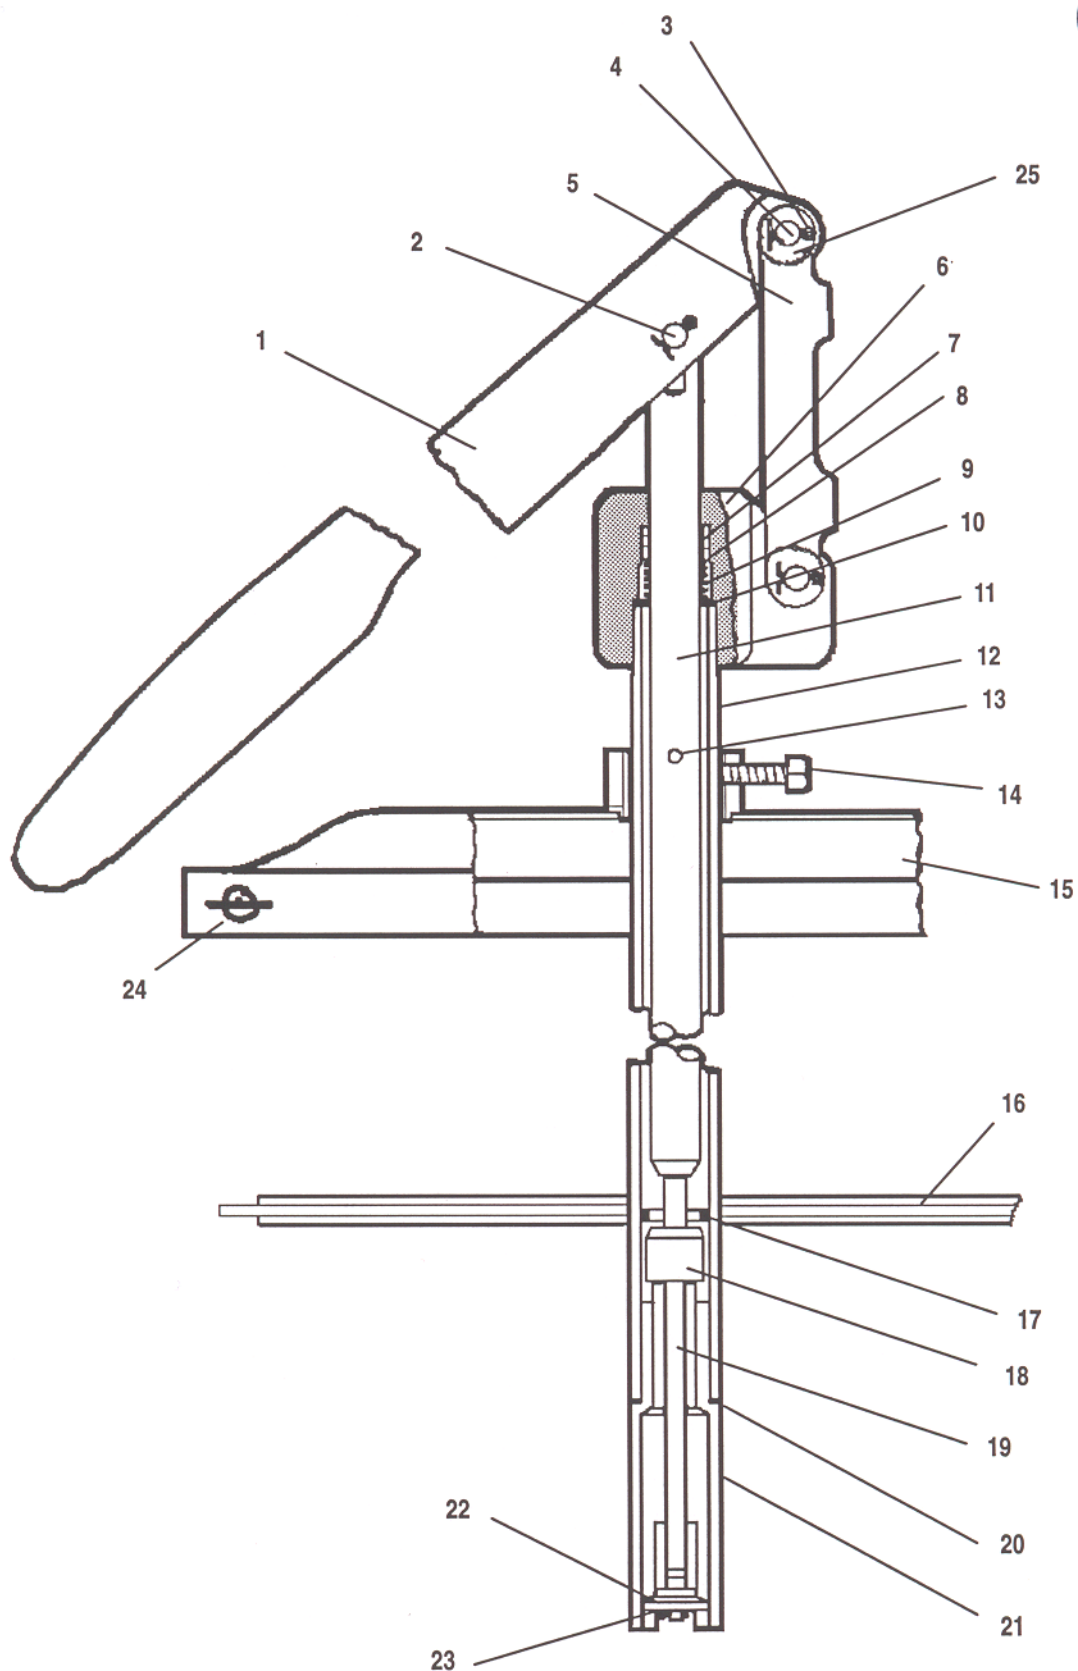

FIGURE 2
1. Install (1) Hand Lever and (5) toggle as shown in Figure 2.
2. Slip (15) cover over the (21) primer tube and secure cover to pump.
3. Assemble the (16) follower plate on the (21) primer tube.
4. Set pump on pail with follower under the drum cover. Adjust cover to proper height and secure with the (14) set screw. Then secure with the three (24) thumb screws.